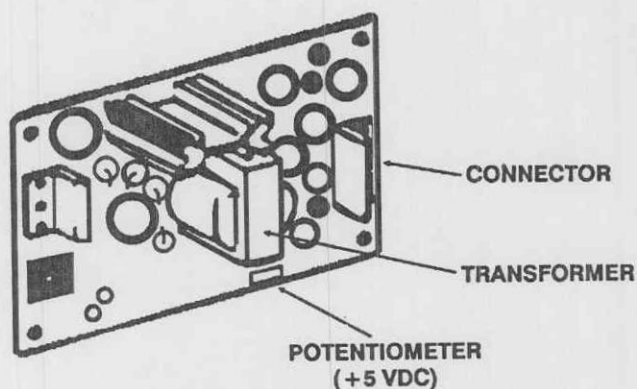

Figure 3-8. Power supply voltage adjustment.
e. Connect a digital voltmeter negative probe to test point "GNDA" and the positive probe to test point "2.5V" on the PCB. (Refer to fig 3-8).